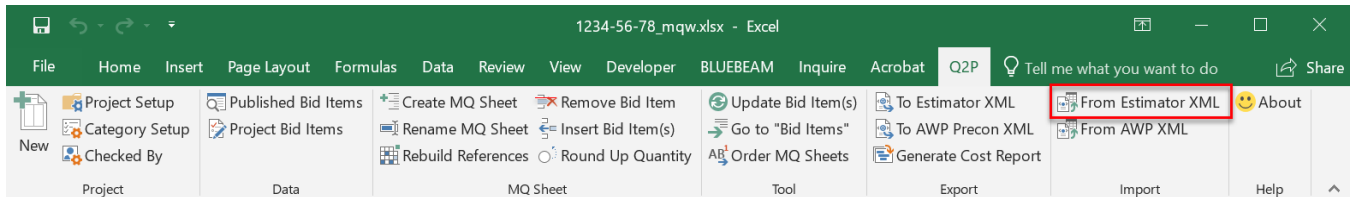

Figure 11.5 “From Estimator XML” command.
2. In Q2P, select **Q2P > Import > From Estimator XML** (Figure 11.5) to bring up the “Import Estimator XML file” dialog box (Figure 10.6).